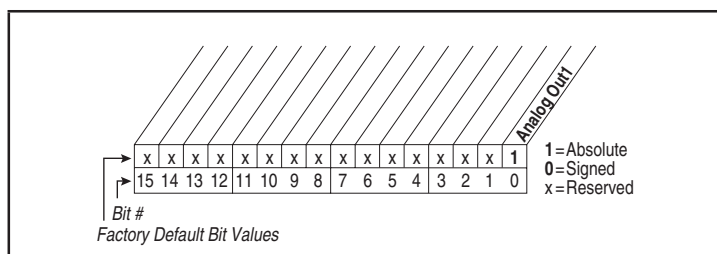

Figure 11.38 – Anlg Out Absolute (341)
**Range:** See figure 11.38
**Default:** See figure 11.38